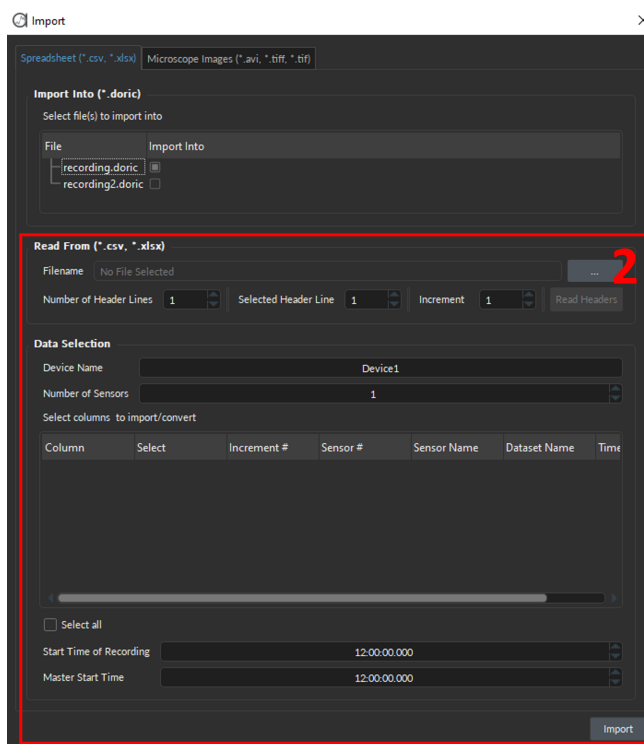

Figure 12.18: *Import, Spreadsheet-specific parameters*
2. The **Spreadsheet** specific parameters in Fig. 12.18 are identical to the parameters details in Section 12.2.2.1.